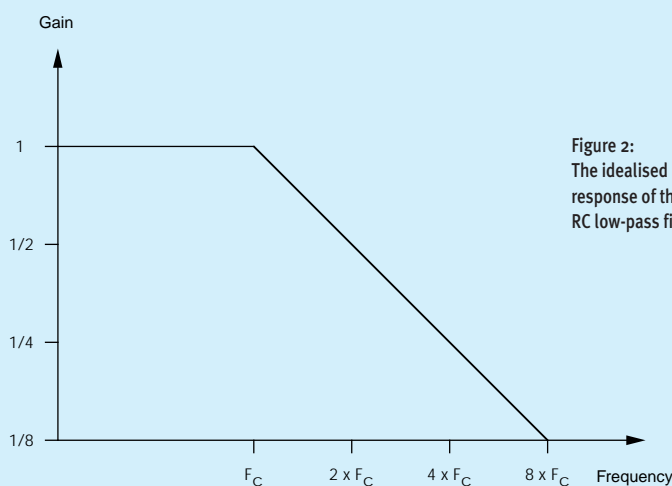
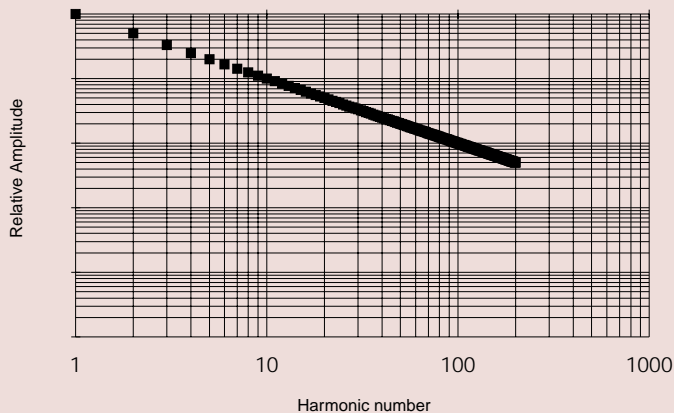

Figure 2: The idealised response of the RC low-pass filter.
Figure 5: The harmonic structure of a 100Hz sawtooth wave expressed on log/log axes.
the cutoff frequency (which I will call F_c), the gain at the output is halved (see Figure 2, left).
Unfortunately (and despite its ubiquitous use within the music industry) Figure 2 is actually *wrong*. Figure 3 shows a more accurate representation of the transfer function. As you can see, the signal amplitude is already down by 3dB at the cutoff frequency. This is not a fault. In fact, in electrical engineering, the position of this 3dB cut *defines* the cutoff frequency. So, let's state this month's first Synth Secret:
Now, let's back-track a little and consider what a simple low-pass filter does to a common waveform. To simplify matters, we'll use the idealised low-pass filter response seen in Figure 2, because its sharp 'knee' makes it easier to recognise what's happening. Figure 4 shows the harmonic structure of the most common analogue synthesizer waveform of all: the sawtooth. All the harmonics are present in this signal, and their
► amplitudes relative to the fundamental are defined by the simple relationship $1/(\text{harmonic number})$. Drawn on conventional graph axes, the amplitudes of the first 200 harmonics look like the graph shown in Figure 4 (see page 101). However, Figure 4 is far from the best way to represent these harmonics. Much better is the graph with logarithmic axes shown in figure 5 (right). This looks quite different, but it represents exactly the same information, so don't worry if you don't know what a logarithmic scale is. Furthermore, it should be obvious why I have chosen to change the axes of the graph in this way, even if you *don't* know what a logarithmic scale is: unlike in Figure 4, the amplitude relationship is now a straight line, and this makes it easy to see the filters' effects in the following graphs. Indeed, if you now look back at Figures 2 and 3 and study the axes, you will see that these graphs also have logarithmic axes.